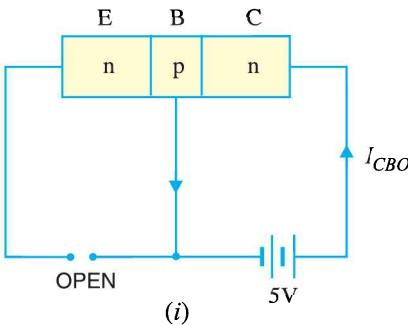

Fig. 8.23
**Solution.** When the emitter circuit is open [See Fig. 8.23 (i)], the collector-base junction is reverse biased. A small leakage current  $I_{CBO}$  flows due to minority carriers.
When base is open [See Fig. 8.23 (ii)], a small leakage current  $I_{CEO}$  flows due to minority carriers.